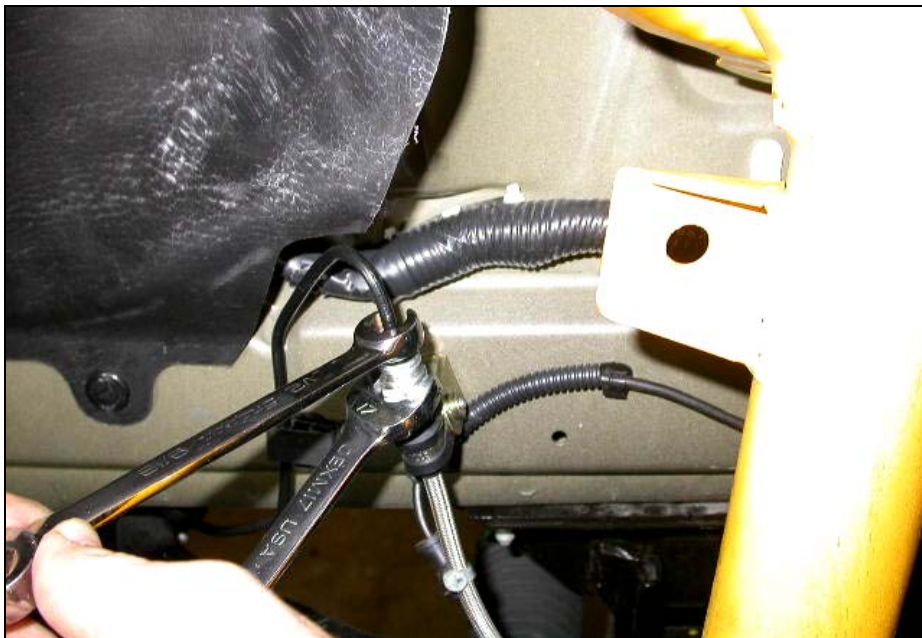

Figure 19
6. Remove the rubber cap from the brake line and connect the brake line to the brake hose. Use wrenches to hold both the brake line and the brake hose ends as you tighten them. Refer to Figure 19. Torque to 17 Nm (150 lb-in).